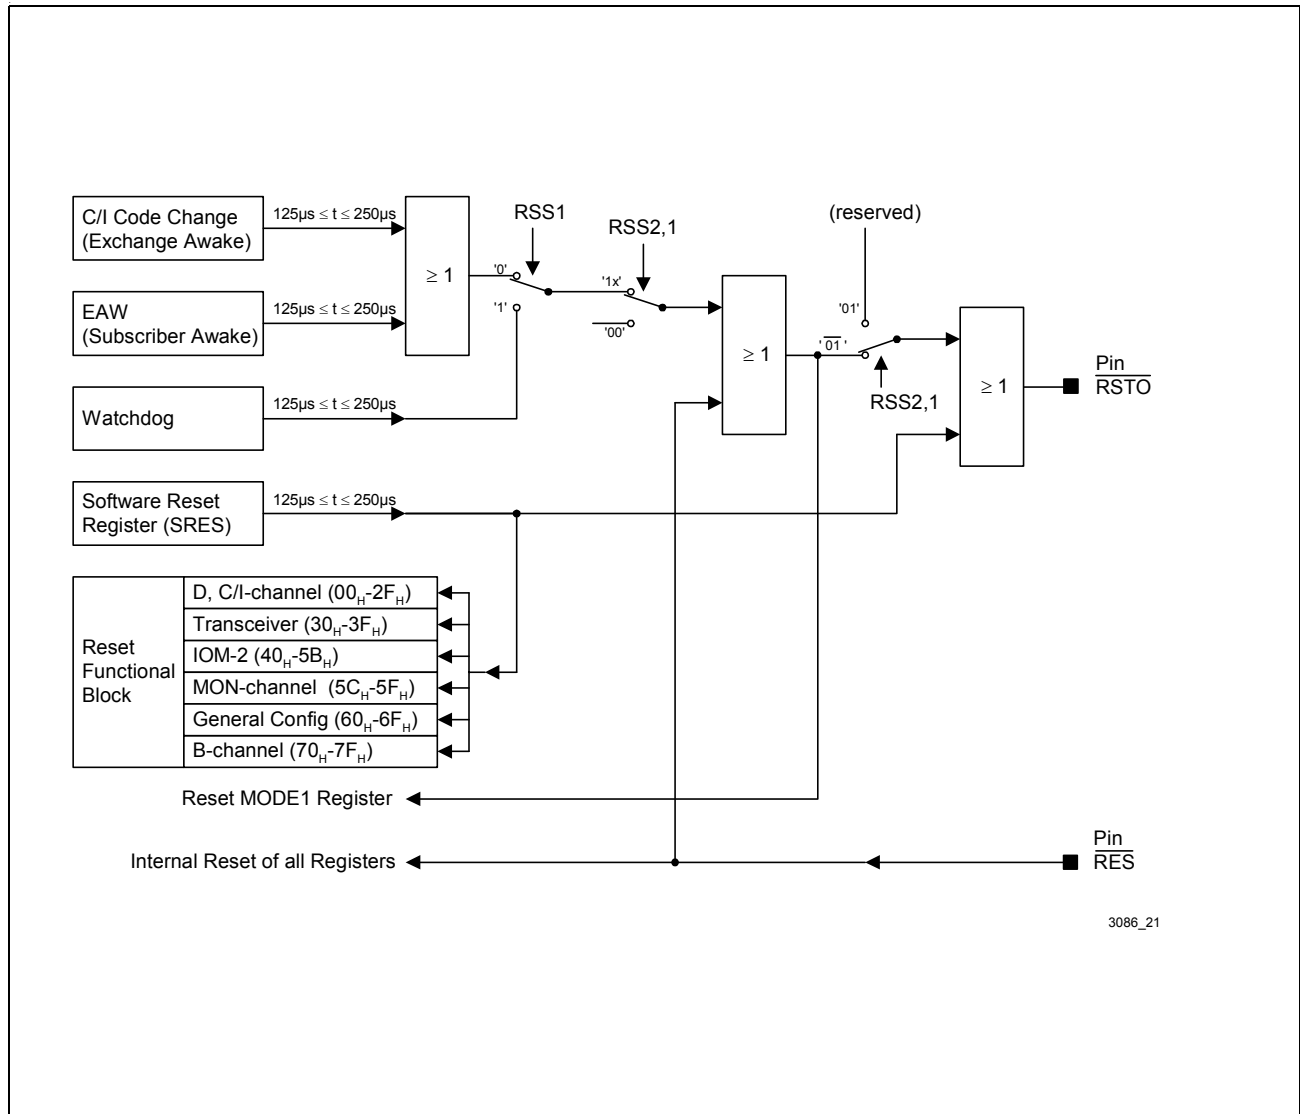

**Figure 9** Reset Generation
**Figure 9** shows the organization of the reset generation of the device.
logic resets this bit again automatically after 4 BCL clock cycles. The address range of the registers which will be reset at each SRES bit is listed in Figure 9.